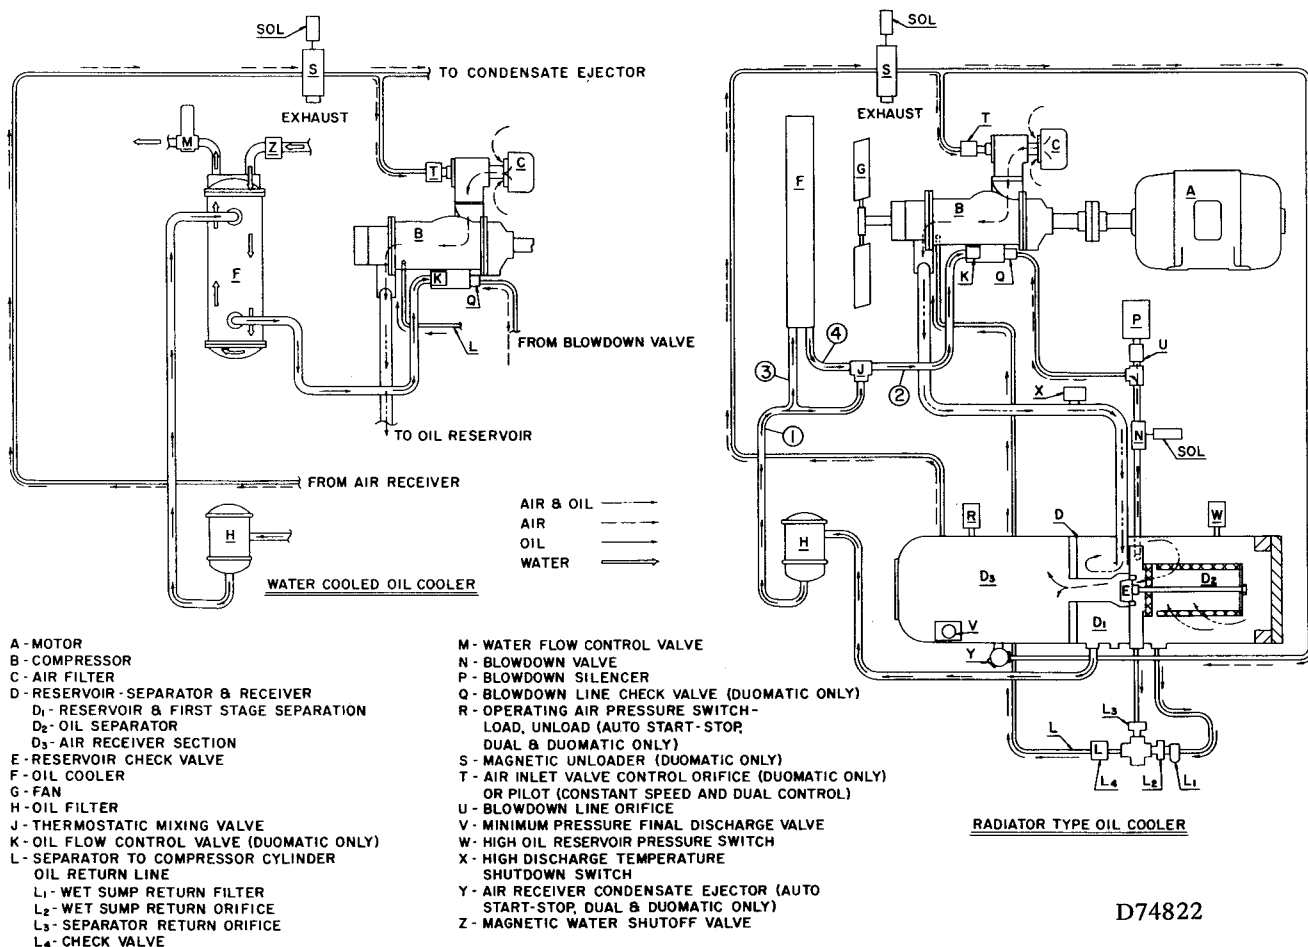
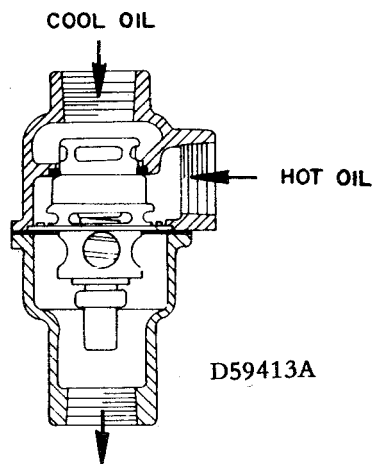
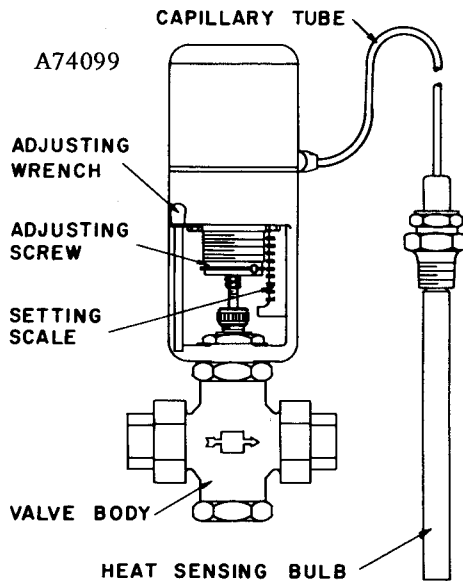

FIGURE 1-3. — FLOW DIAGRAM — AIR-OIL SYSTEMS
FIGURE 4-3. — THERMOSTATIC MIXING VALVE
FIGURE 5-3. — WATER CONTROL VALVE
**COMPRESSOR OIL SYSTEM** (Figure 1-3) cools the compressor, lubricates moving parts and seals internal clearances in the compression chamber.
(Figure 4-3) is installed in the system as shown in the flow diagram, Figure 1-3. On start-up, with the unit cold, the thermostat in the valve is open to the bypass line, allowing the oil to circulate directly from the oil reservoir to the compressor during the warm-up period. As the oil warms up, the thermostat gradually opens to allow oil from the cooler to mix with oil from bypass line. After the unit is warmed up, the mixing valve maintains oil injected into compressor at a minimum of 130° F. This system provides proper compressor warm-up and prevents moisture contamination of the oil.
To check the thermostat, heat in oil — it should be wide open at 130° F. If the unit shuts down due to high air discharge temperature, the cause may be that the thermostat is stuck open in the bypass position blocking the cooler out of the system, in which case lines 1 and 2 (Figure 1-3) will be hot to the touch and lines 3 and 4 much cooler. When flushing the oil system, remove the mixing valve and clean all parts thoroughly.
— The heat-exchanger cooler is a multiple pass type, with water in the tubes and oil in the shell. The water flow is regulated by a self-operated flow control valve (Figure 5-3) installed in the water outlet line from the oil cooler as shown in the flow diagram (Figure 1-3) and designed to maintain the oil injected into the compressor at a minimum of 130° F. The valve’s temperature sensing bulb is located in the oil outlet line of the oil cooler. An oil temperature change at the bulb operates the valve, increasing or decreasing the water flow, to maintain the oil temperature within the set range. The control panel thermometer indicates the oil temperature to the compressor.
**WATER FLOW CONTROL VALVE FOR HEAT EXCHANGER** (Figure 5-3) — The water flow control valve is adjustable to compensate for varying inlet water temperatures. Use the oil temperature thermometer on the control panel in setting the flow control valve. **To decrease water flow** (increase oil inlet temperature) insert the adjusting rod into one of the holes in the adjusting screw and move from left to right, increasing spring tension. **To increase water flow** (decrease oil inlet temperature) turn the adjusting screw in the opposite direction. The rib through the adjusting screw wrench holes is an index line for use with the index scale 0 to 8 in obtaining a desired setting.
**WATER SHUTOFF VALVE — WATER-COOLED HEAT EXCHANGER** (Figure 1-3) — A magnetic solenoid operated water shutoff valve rated at 150 PSIG water pressure is supplied in the water inlet line ahead of the oil cooler. The valve is wired into the compressor control circuit and opens to allow water to flow any time the ON-OFF push button is ON and the compressor is running. When compressor stops under automatic control, or is shut off manually, the valve closes, stopping water flow through the system.
**OIL RETURN** (Figure 1-3) – Two lines return oil from the separator system to the compressor oil system through an orifice cross and tubing to the compressor cylinder. Orifice fitting stamped “R” contains a 1/16” orifice and is connected to the return line from the dry sump portion of the oil separator section. Orifice fitting stamped “S” contains a 3/32” orifice and is connected to the line from the separator element. The line from the dry sump has a filter which should be cleaned at each oil change. Check valve at orifice cross prevents backflow of oil from compressor during blowdown.
**OIL FLOW CONTROL VALVE (Duomatic Control Unit Only)** (Figures 1-3 & 7-3) – An oil flow control valve is located in the compressor oil sump at the end of the oil piping from the oil cooler. This valve functions as a metering and check valve during unloaded operation; release of the air pressure in the oil reservoir allows pressure to fall on the upstream side of the valve and the spring seats the disc. The vacuum developed in the compressor when unloaded is sufficient to cause a lubricating amount of oil to flow through the orifice hole in the seated disc. When air pressure is again applied in the oil reservoir on loaded operation, the spring force is overcome, and the full amount of oil flows into the compressor. The spring and disc are available for repair. If the valve seat is damaged, a complete new valve should be purchased to insure proper mating of seat and disc.
**AUTOMATIC BLOWDOWN SYSTEM** (Figure 1-3) – A solenoid operated magnetic valve wired into the control circuit is used to relieve pressure in the oil reservoir section each time the unit unloads (Duomatic Control only) or is shut down. A 3/16” diameter orifice in the line downstream from the valve is used to hold blowdown time to about 45 seconds and prevent oil carry-over due to too rapid a release of pressure. On the Duomatic Control system only, a line from the pipe tee just downstream of the blowdown valve directs a portion of the blowdown air to the compressor sump to aid in scavenging oil for a smooth transition to unloaded operation; the in-line check valve at the compressor sump prevents flow to atmosphere during loaded operation. A silencer terminates the blowdown line to muffle air discharge noise.